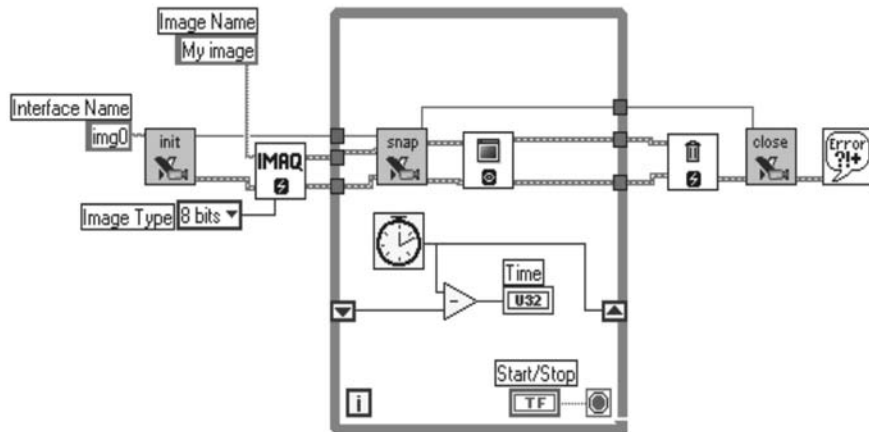

Figure P12.2 Block diagram.
**Solution** The block diagram to acquire images using a While Loop around IMAQ snap is shown in Figure P12.2.